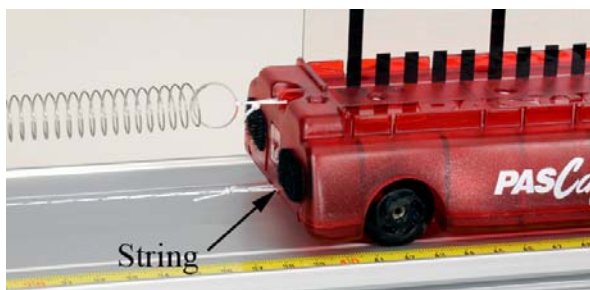
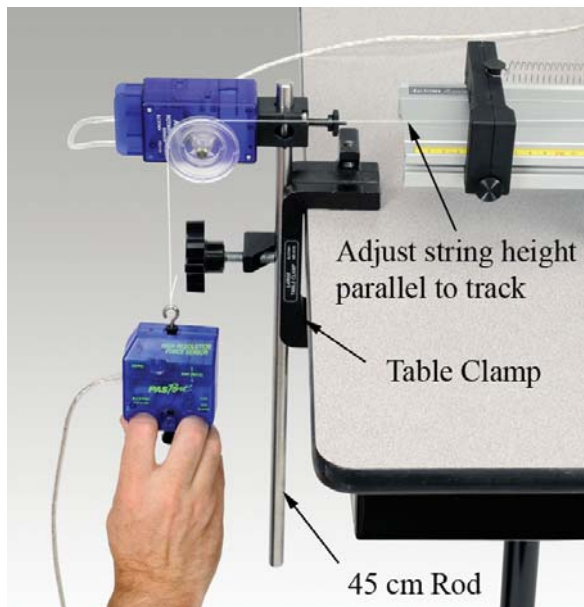

Figure 7: String Attachment for Force Sensor
Figure 8: Measuring the Spring Constant
2. Attach a string to the loop at the bottom of the cart as shown in Figure 7. This string runs under the endstop and over the large pulley of the Rotary Motion Sensor (see Fig. 8) and then hooks to the Force Sensor.
3. Use the table clamp and 45 cm rod to mount the Rotary Motion Sensor as shown in Figure 8. Note that the top knob on the table clamp has been removed. The large pulley on the 3-step pulley should be on the outside. The track must be positioned so that the string coming from the cart runs straight down the track. Adjust the height so that the string does not touch either the track or the endstop.
1. Use the set-up shown in Figure 8. Remove the string from the hook, and then press the zero button on the Force Sensor. Reconnect the string. Make sure the string goes over the large diameter pulley.